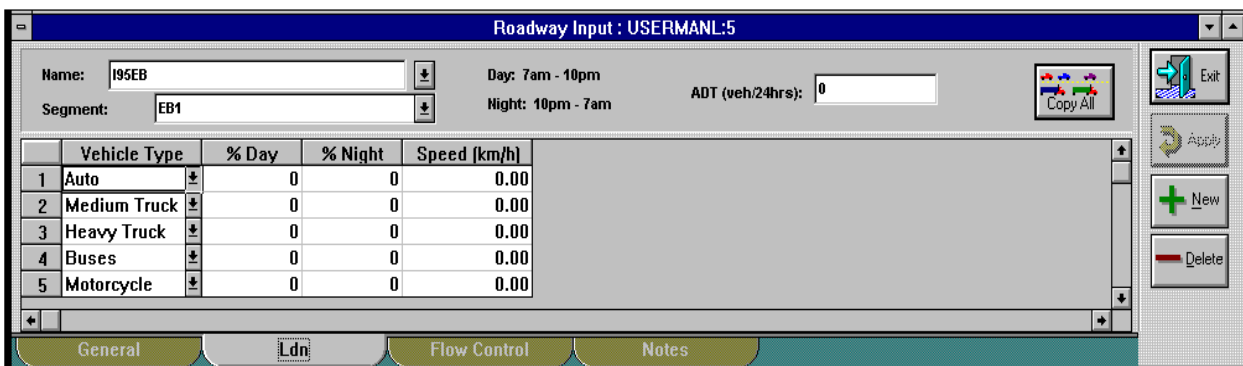

Figure 23. Roadway input: Traffic tab (L_{dn}).
2. Select **Ldn** on the roadway input dialog (see Figure 23).